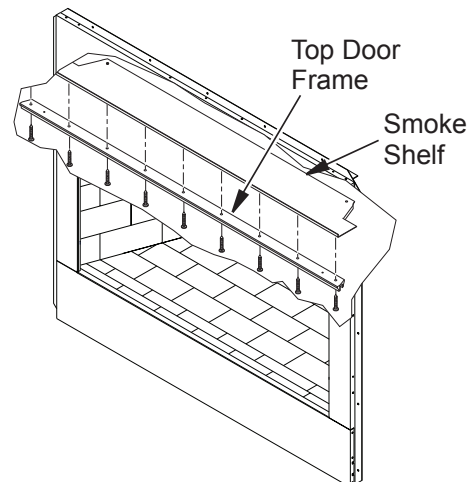

Figure 30 - Installing Top Door Frame
1. Remove screws from smoke shelf (see Figure 30).
2. Mount top door frame and secure with screws provided (see Figure 30).